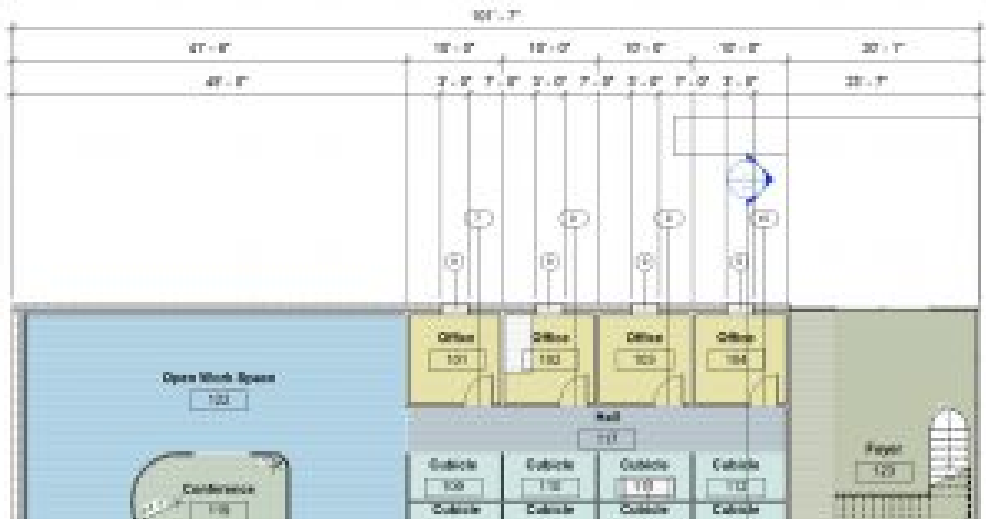

Figure 10.11 Dimension strings added to the Level 1 View
7. Practice placing more dimensions including the Angular, Radial and Arc Length dimensions as shown in Figure 10.11